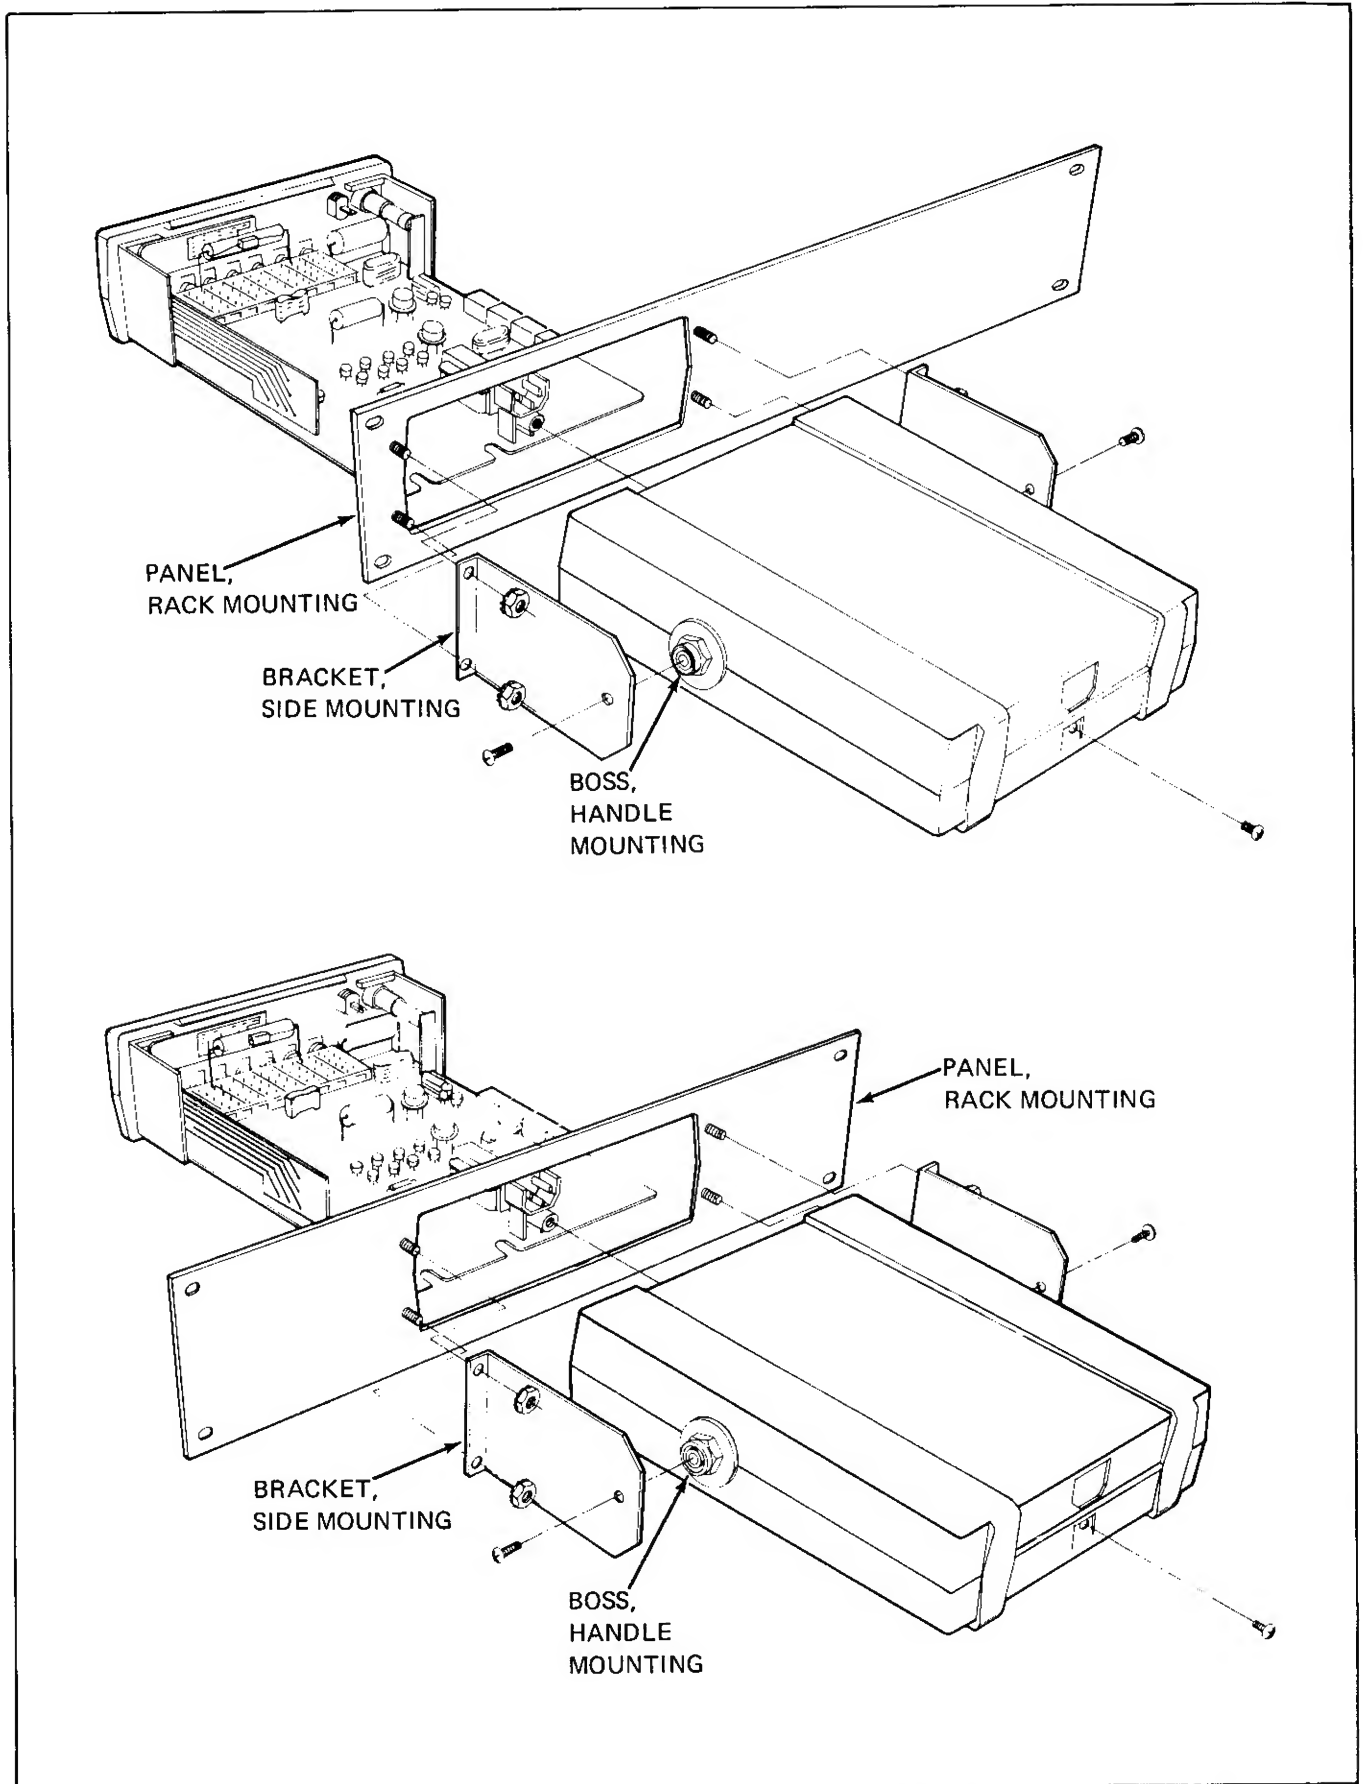

Figure 600-3. RACK MOUNTING KITS, OFFSET AND CENTER MOUNTING
3. Install the side mounting brackets, as shown in Figure 600-3 and secure them to the mounting panel using the nuts provided.